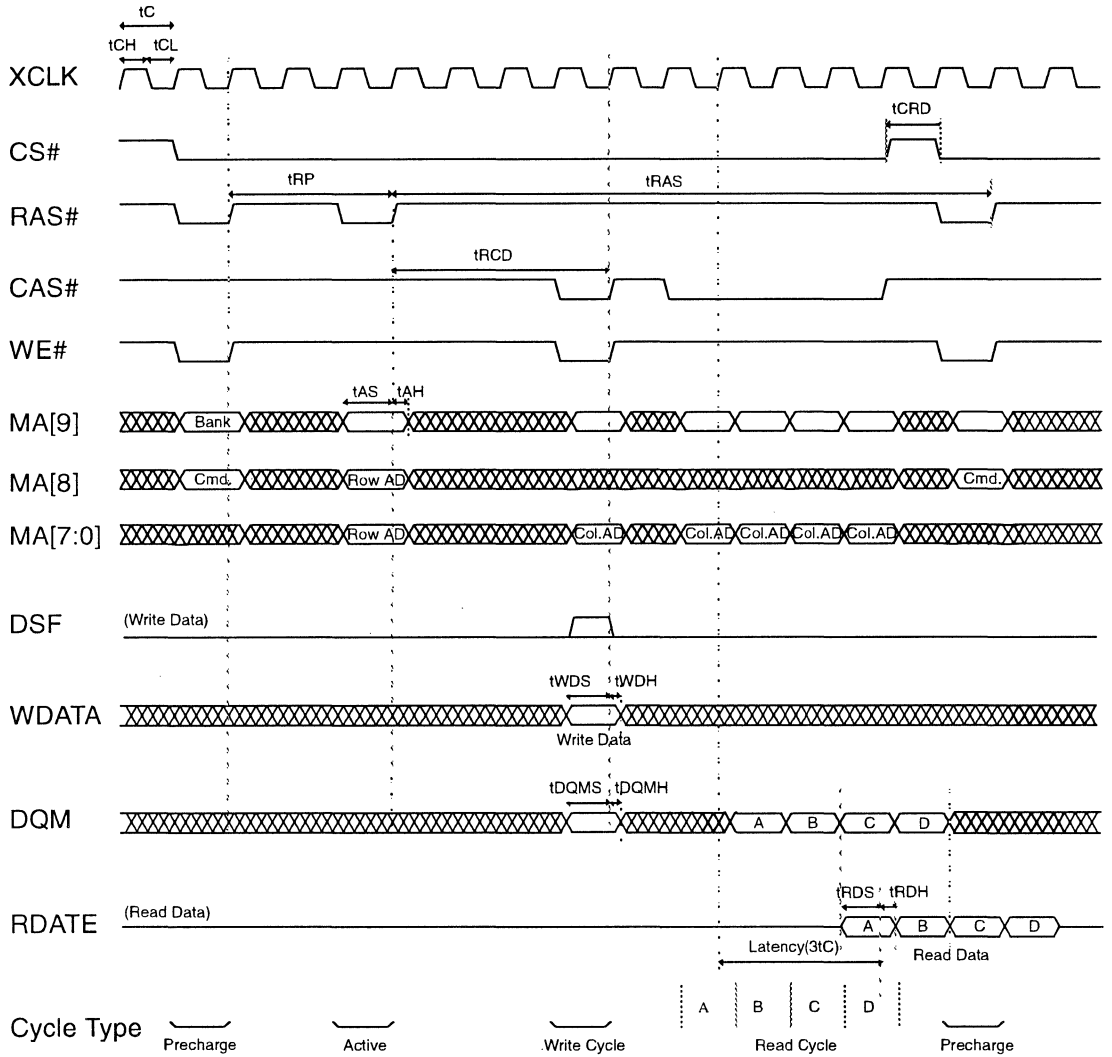

Figure 7-14. SDRAM / SGRAM Cycle Timing
- SDRAM/SGRAM Cycle Timing, see *Figure 7-14*.